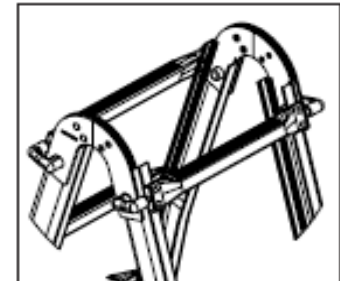

Figure 8
- 6) Ensure rungs face out opposite the hinge hook direction (See Figure 7). Spread outer sections apart as shown in Figure 8.